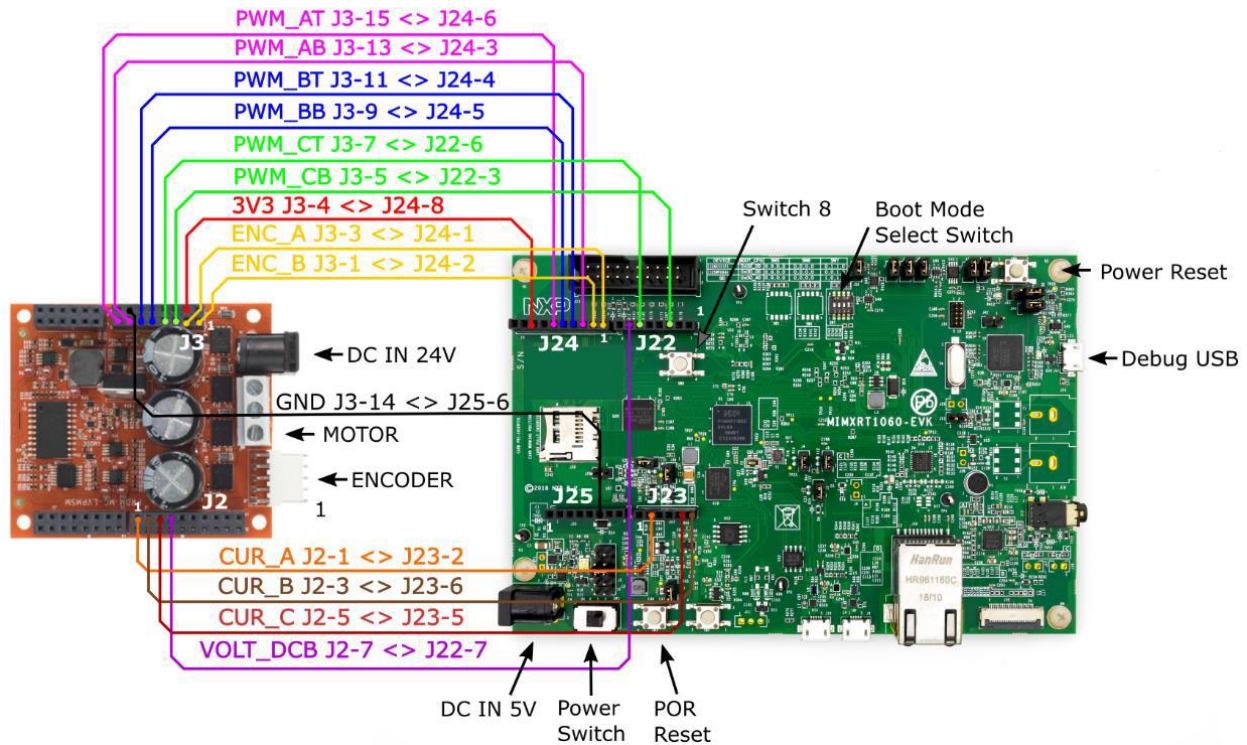

Figure 25. MIMXRT1060-EVK interconnection diagram
1. Connect the FRDM-MC-LVPMSM power stage to the MIMXRT1060-EVK board by wires according to the pin assignment (Table 20) and the interconnection diagram (Figure 25).